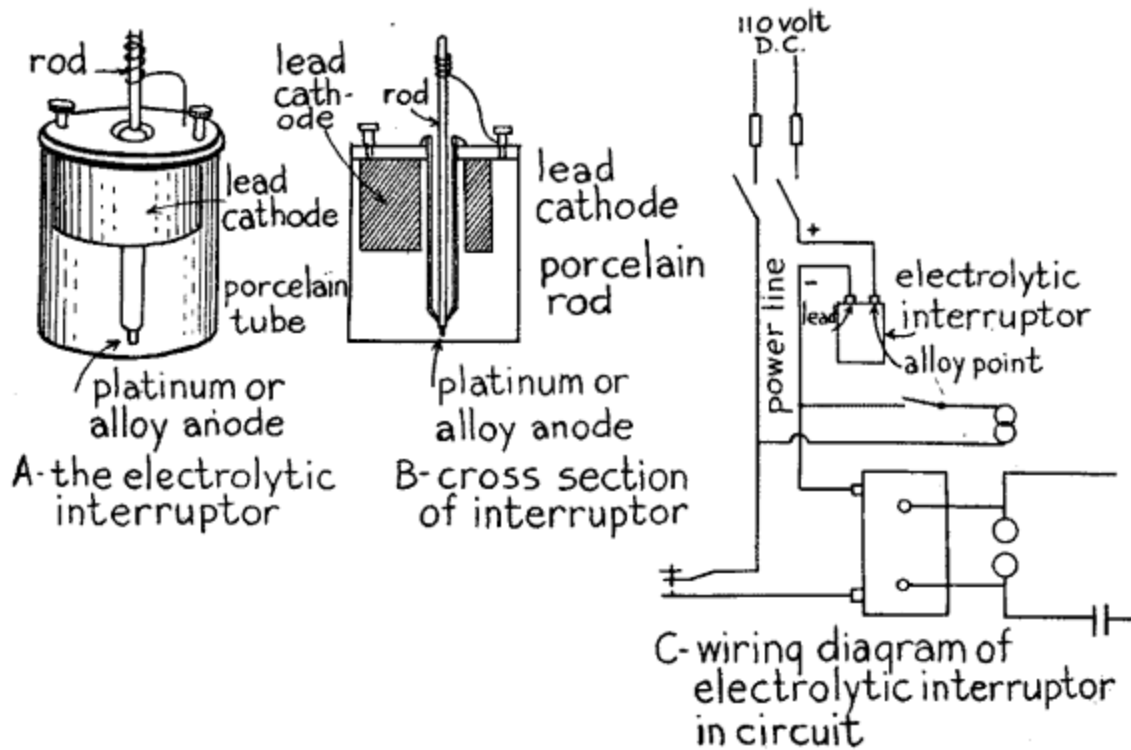

FIG. 23.—Using 110 Volt Direct Current with an Alternating Current Transformer.
For Direct Current.--Where you have 110 volt direct current you must connect in an electrolytic interrupter. This interrupter, which is shown at *A* and *B* in *Fig. 23*, consists of (1) a jar filled with a solution of 1 part of sulphuric acid and 9 parts of water, (2) a lead electrode having a large surface fastened to the cover of surface that sets in a porcelain sleeve and whose end rests on the bottom of the jar.